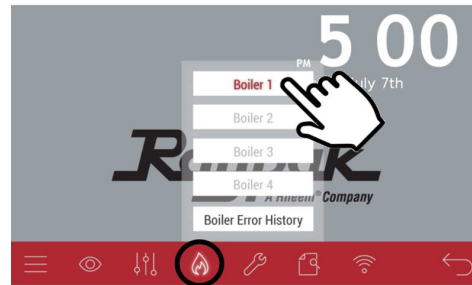

Figure 49. Boiler Flame Icon
1. On the touchscreen, go to the Boiler menu (flame icon) and select "Boiler 1" see **Figure 49**.